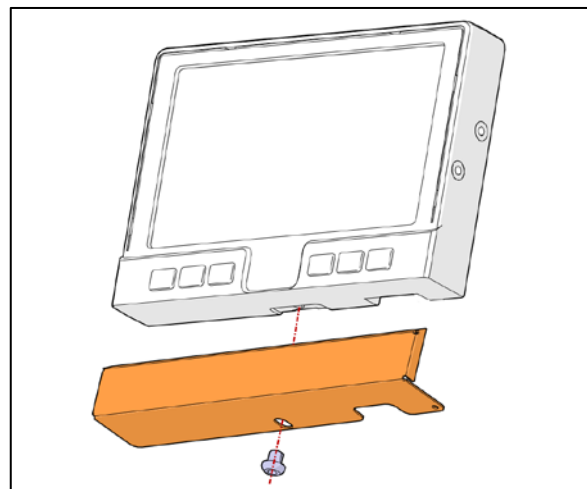

Figure 1
1. Install the guard and the screw on the monitor (Figure 1).